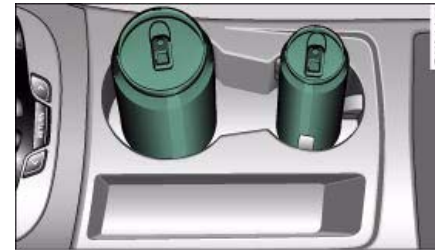

Fig. 93 Centre console: Front cup holder
- Two drinks can be placed in this cup holder ⇒ fig. 93.